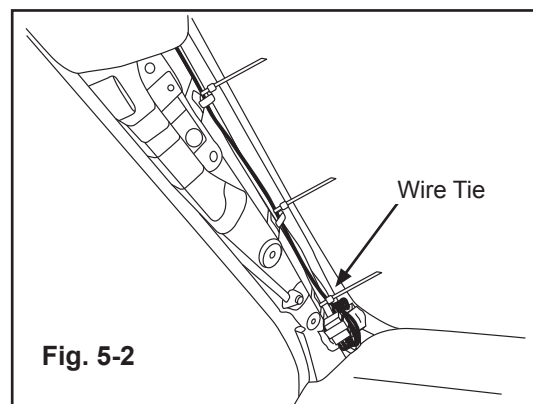

Fig. 5-2
b) Fold the Wires of the jumper harness down so that the upper connector rests on the foam tape. Bundle any remaining slack in EC harness near the OE connectors in the bottom of the A-pillar. Secure bundle and jumper harness to OE harness of smaller OE connector with (1) wire tie, as shown. (Fig. 5-2)